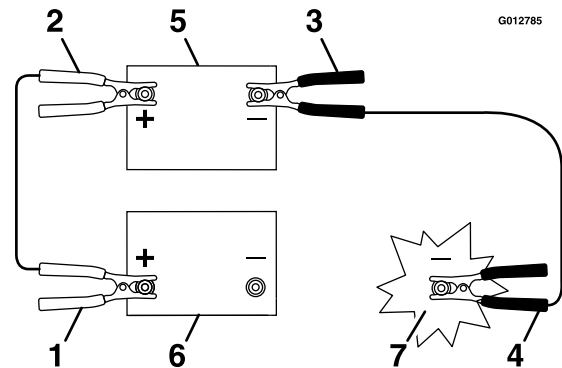

Figure 82
4. Connect the positive (+) cable to the positive (+) terminal of the discharged battery that is wired to the starter or solenoid as shown in Figure 82.